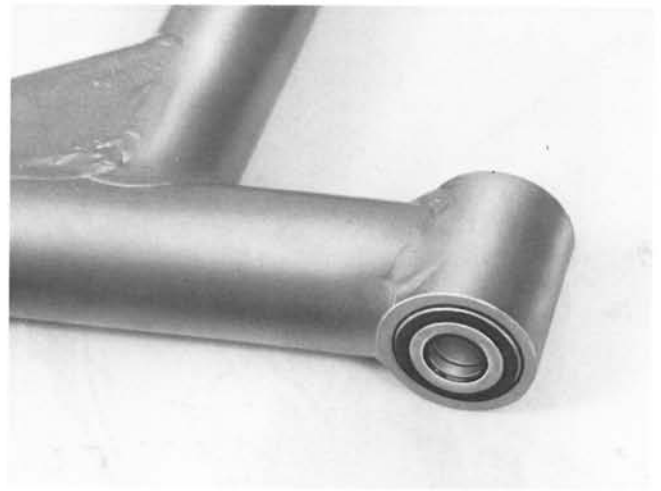

Fig. 49.1
5. Mount the sleeve and the two O-rings. See fig. 49.1.